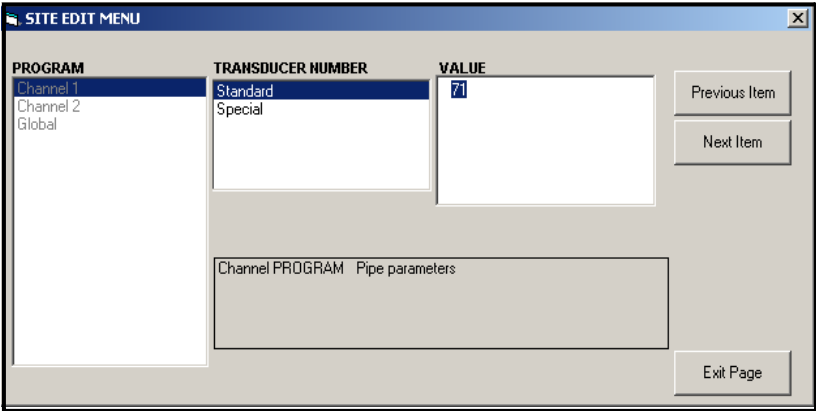

Figure 43: The Pipe Parameters Option in the *Site Edit Menu*
- a. Highlight and double-click on the desired option in the center pane. *Figure 43 on page 91* shows the first entry (Transducer Number) in the *Pipe Parameters* option. The title above the center pane lists the current entry, while the center pane displays the available selections for that entry.